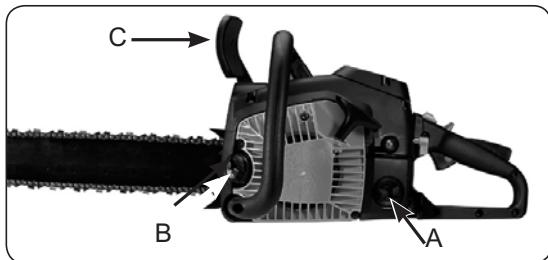

Fig. 6
1. Fill the fuel tank (A) with correct fuel mixture (*Fig. 6*).
2. Fill the oil tank (B) with correct chain and bar oil (*Fig. 6*).
3. Ensure the chain brake is disengaged (C) before starting unit (*Fig. 6*).